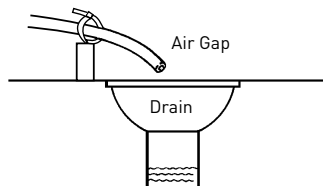

Figure 1
9. Place approximately 1" (25 mm) of water above the grid plate. If a grid is not utilized, fill to the top of the air check (Figure 1) in the salt tank. Do not add salt to the brine tank at this time.